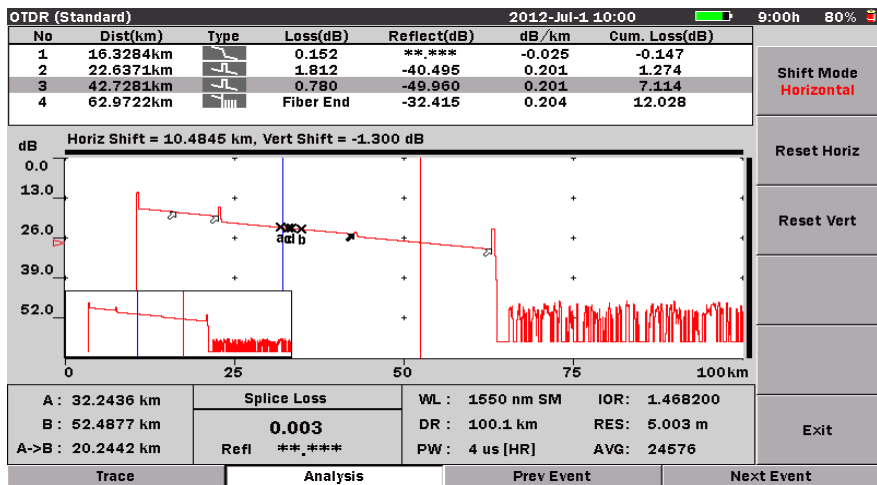

Figure 4-27: Shift Mode
4. Turn the **Rotary knob** to shift the trace along the chosen axis. The offset values of the shift are displayed above the trace graph. See Figure 4-27.